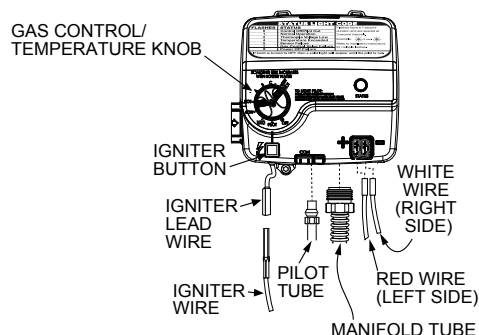

FIGURE 22.
1. Turn the gas control/temperature knob to the "OFF" position (Figure 22).
5. Disconnect the following from the gas control valve/thermostat: pilot tube (7/16" wrench), igniter wire (from the igniter lead wire), and manifold tube (3/4" wrench). See Figure 22.
6. Disconnect the white and red wires from the gas control valve/thermostat (Figure 22). Use needle nose pliers to grip the connector(s). **IMPORTANT:** Grip the connector carefully to prevent damage. Do not grip or pull the wires themselves.
6. Reconnect the manifold tube (3/4" wrench) and pilot tube (7/16" wrench) to the gas control valve/thermostat (Figure 22). Do not cross-thread or apply any thread sealant to the fittings.
8. Reconnect the igniter wire (Figure 22).
4. Disconnect the igniter wire from the igniter lead wire. Use needle nose pliers to disconnect the red (+) and white (-) thermopile wires. Disconnect the pilot tube (7/16" wrench) and manifold tube (3/4" wrench) at the gas control valve/thermostat (Figure 22). **NOTE:** L.P. Gas systems use reverse (left-hand) threads on the manifold tube.